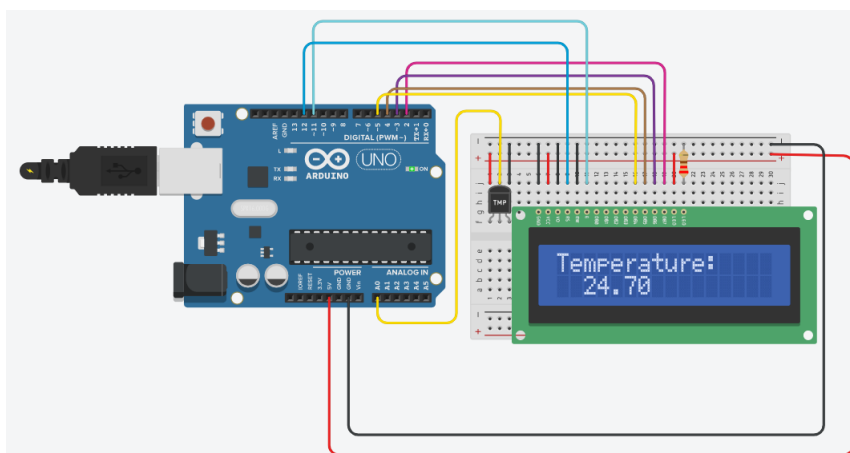

Figure 13.6: Printing Temperature to LCD
17. Set your workspace as you shown in Figure 13.6. The resistor value is 220Ω. Be careful about the connection locations.